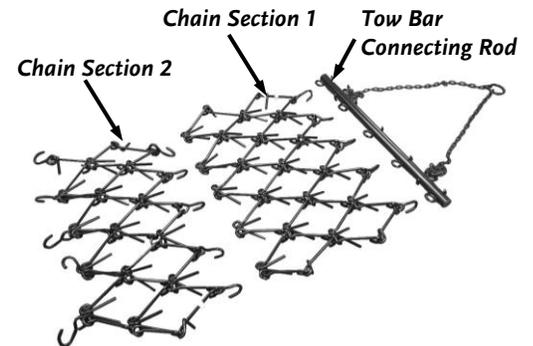

Figure 2
Note: Chain Section 1 has a set of hooks on one end and Chain Section 2 has a set of hooks on both ends. See Figure 2.
1. Position the Tow Bar Connecting Rod, Chain Section 1 and Chain Section 2 on a Flat Surface. Ensure that the Tines on both Chain Sections are all facing down and forward (Figure 2).